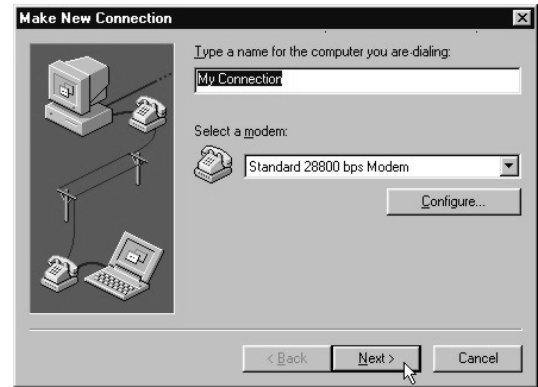

Figure 15 - Modem Selection
14. Type in a name for this new connection. Select a modem from the list and click NEXT. (Fig. 15)